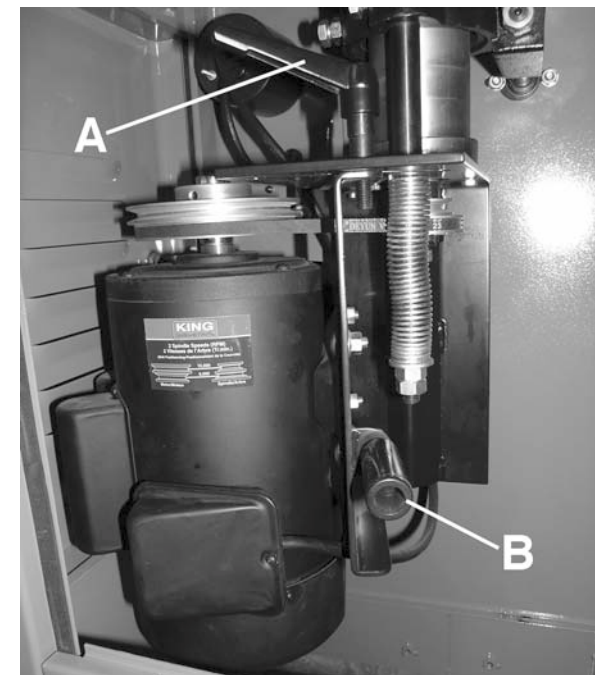

FIGURE 19
- 1) Open the hinged door at the back of the cabinet, loosen belt tension lock handle (A) Fig.19 and then move the motor assembly to the right using the pivot handle (B) to loosen belt.